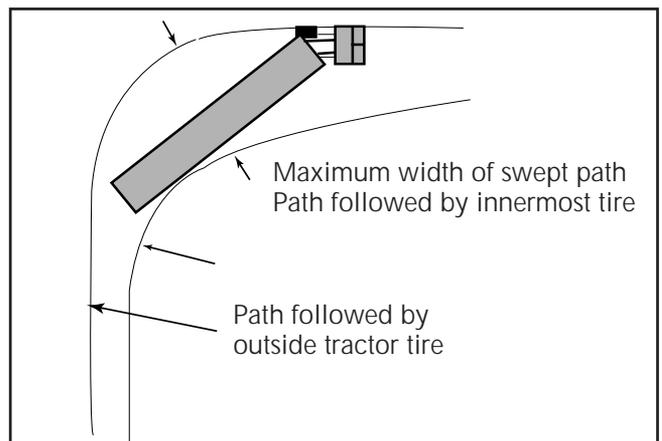
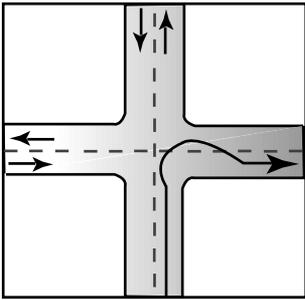

Figure 6-4
Figure 6-5
When a vehicle goes around a corner, the rear wheels follow a different path than the front wheels. This is called **offtracking** or "cheating." Figure 6-4 shows how offtracking causes the path followed by a tractor-semi to be wider than the rig itself. Longer vehicles will offtrack more. The rear wheels of the powered unit (truck or tractor) will offtrack some, and the rear wheels of the trailer will offtrack even more. If there is more than one trailer, the rear wheels of the last trailer will offtrack the most. Steer the front end wide enough around a corner so the rear end does not run over the curb, pedestrians, other vehicles, etc. However, keep the rear of your vehicle close to the curb. This will stop other drivers from passing you on the right. If you cannot complete your turn without entering another traffic lane, turn wide as you **complete the turn** (Figure 6.5). This is better than swinging wide to the left before starting the turn because it will keep other drivers from passing you on the right. If drivers pass on the right, you might collide with them when you turn.
5. Why should you turn like it shows in figure 6-5?